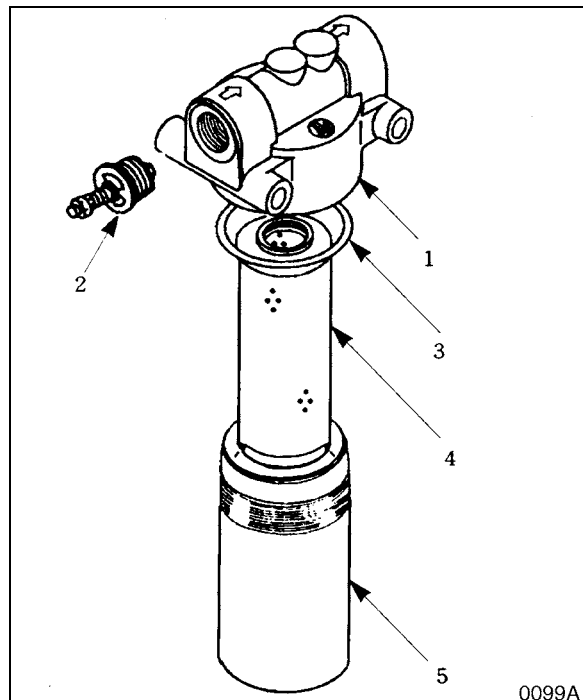

Figure 53
2. Unscrew element cover (5, Figure 53). Cover is filled with oil. Dispose of oil.
3. Remove O-ring (3, Figure 53) and filter element (4).
4. Use a nonflammable, nontoxic solvent to clean out cover (5, Figure 53).
5. Insert a new filter element (4, Figure 53) into cover (5). Install a new O-ring (3).
6. Screw cover (5, Figure 53) onto filter head (1).